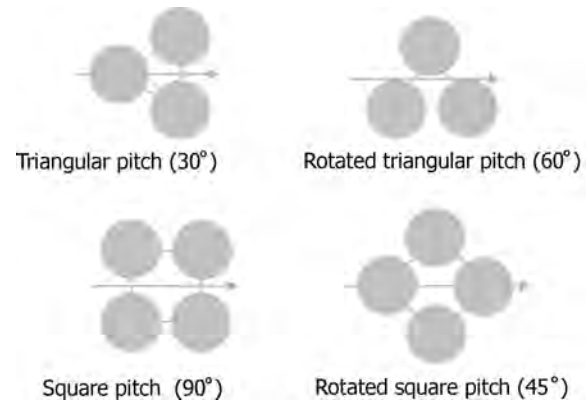

FIGURE 10.15 Types of tube pitch.
- Figures 10.15 and 10.16 illustrate types of tube pitch.